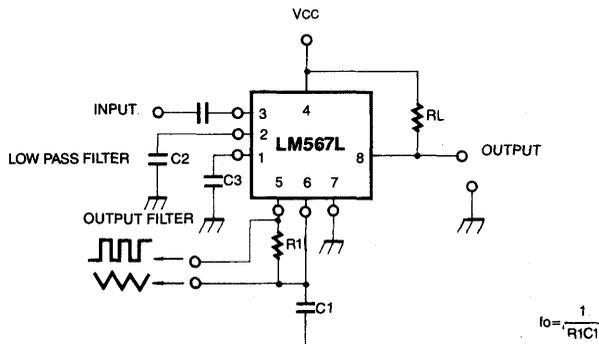
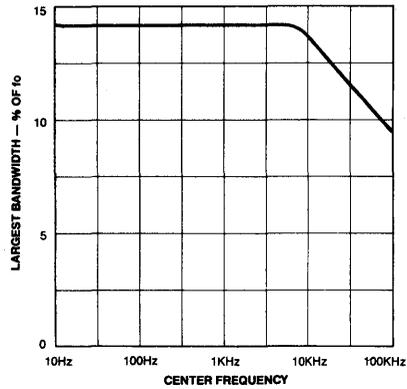

Fig. 2
FIG 10. DETECTION BANDWIDTH
This free-running frequency, f_0 , is determined by the selection of R1 and C1 connected to Pins 5 and 6, as shown in Fig 2. The detection bandwidth is determined by the size of the PLL filter capacitor, C2 (see Fig 10); and the output response speed is controlled by the output filter capacitor, C3.
The largest detection bandwidth is the frequency range centered about f_0 , within which an input signal larger than the threshold voltage (typically 20mV_{rms}) will cause a logic zero state at the output. The detection bandwidth corresponds to the capture range of the PLL and is determined by the low-pass loop filter at Pin 2. Typical dependence of detection bandwidth on the filter capacitance and the input signal amplitude is shown in Figs 10 and 11, or may be calculated by the approximation.
The center frequency of the decoder is set by resistor R1 between Pins 5 and 6, and capacitor C1 from Pin 6 to ground, as shown in Fig 2.
The selection of C2 is determined by the detection bandwidth requirements, as shown in Fig 10. For additional information see section on "Definition of Device Parameters."
2. Low-pass capacitor, C2, can be determined from the bandwidth versus input signal amplitude graph of Fig 10. One approach is to select an area of operation from the graph, and then adjust the input level and value of C2 accordingly. Or if the input amplitude variation is known, the required $f_0 C2$ product can be found to give the desired bandwidth. Constant bandwidth operation requires $V_i > 200mV_{rms}$. Then, as noted on the graph, bandwidth will be controlled solely by the $f_0 C2$ product.